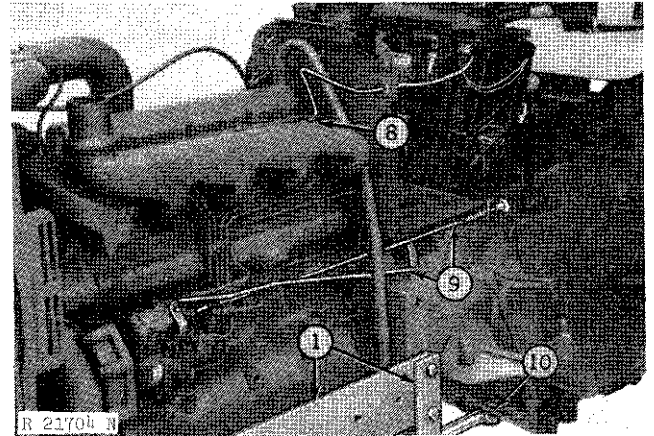

Fig. 2-Left-Hand Separation Procedures
8. Disconnect temperature gauge sensing bulb from engine (Fig. 2).